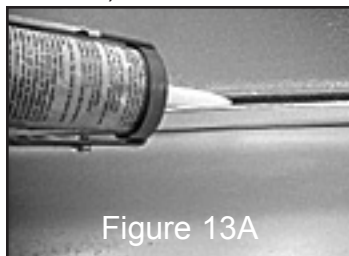

Figure 13A
C. CW® uses the “Wet Glaze” technique to secure the In-Line Glass Panel (#22) on the inside of the unit. Run the Clear Tub/Tile Silicone in between the glass and metal, around the entire inside perimeter (See Figures 13A and 13B).